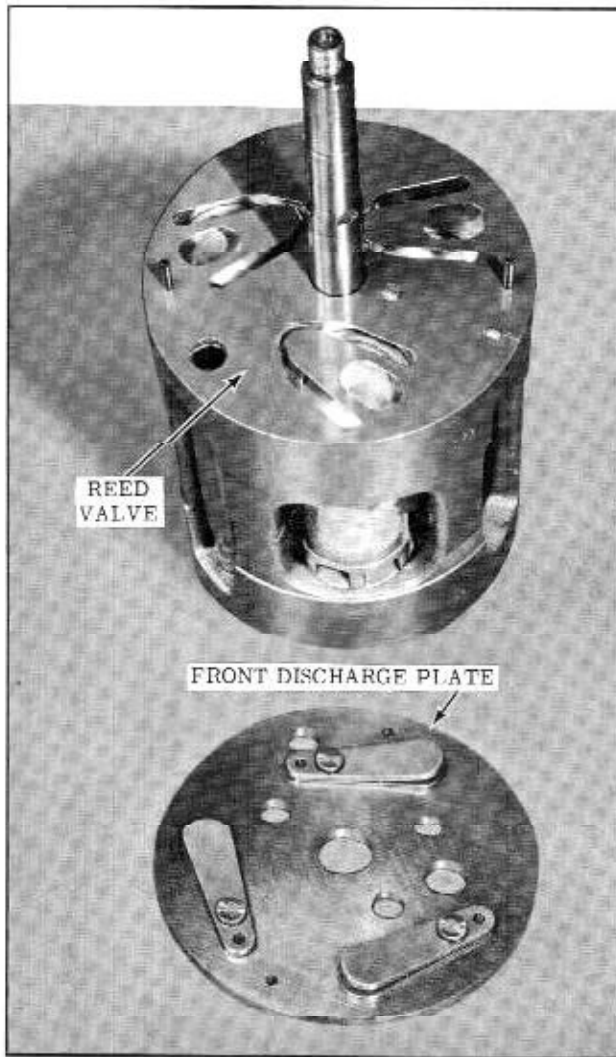

Fig. 14-44 Front Head Discharge Plate and Reed Valve
3. Remove the front discharge valve plate and reed valve assembly. Separate discharge plate from reed valve and inspect. (Fig. 14-44)